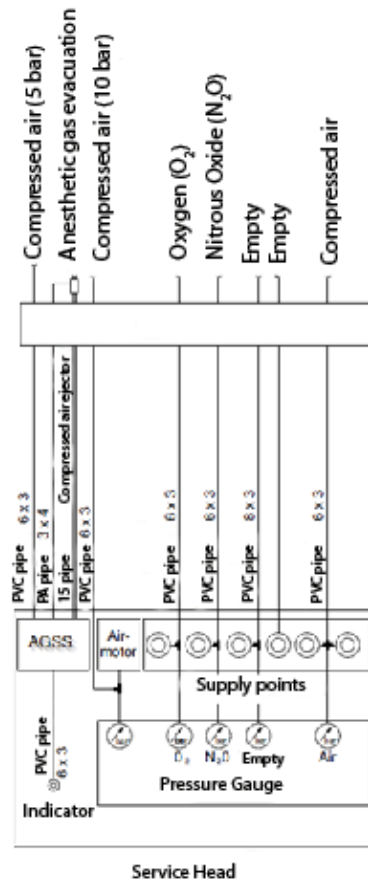

Fig. 23 Example of connection of gas hoses and anaesthesia gas evacuation systems
- Ensure that the cables, hoses and conduits are assigned to the correct supply outlet points. See diagram in figure 23.